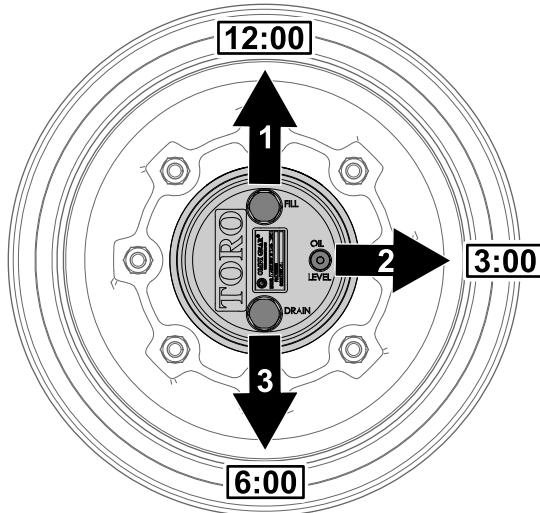

Figure 103
1. Park the machine on level surface, position the wheel so that the fill plug is at the 12 o'clock position, the check plug is at 3 o'clock position, and the drain plug is at the 6 o'clock position (Figure 103).
(Figure 103)
1. Park the machine on level surface, position the wheel so that the fill plug is at the 12 o'clock position, the check plug is at 3 o'clock position, and the drain plug is at the 6 o'clock position; refer to Figure 103 in Checking the Planetary Gear-Drive Lubricant (page 64).